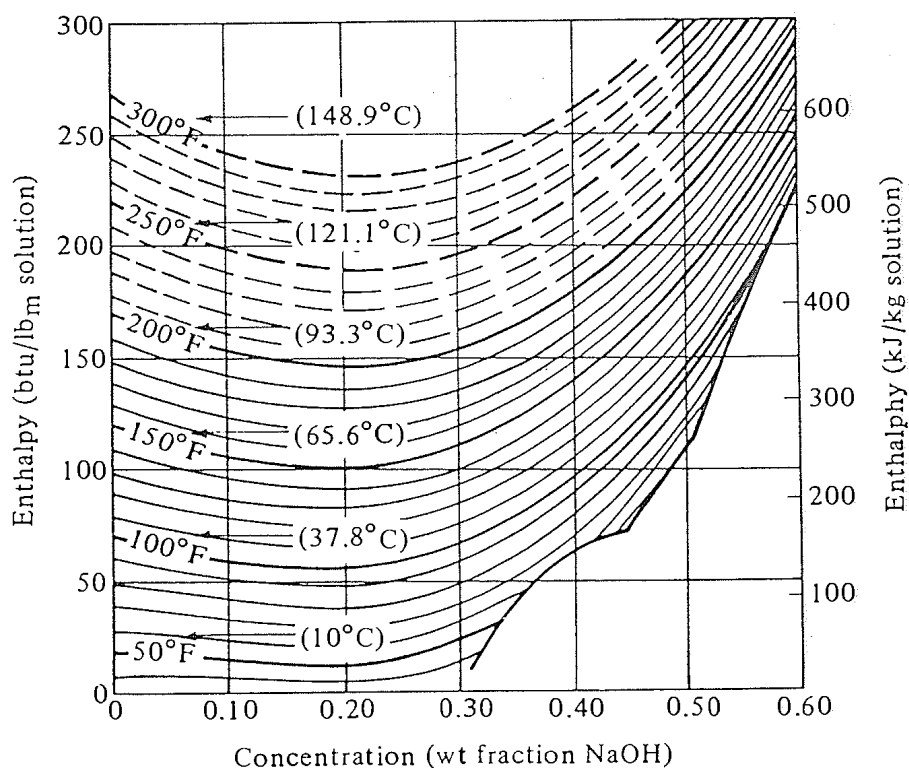

Figure 5: Enthalpies of NaOH solutions for use in Q. 5.
- d) Determine the duty of the evaporator. You must clearly state any other approximations you make. An enthalpy-concentration diagram for aqueous NaOH mixtures is available in Fig. 5. [8 marks]